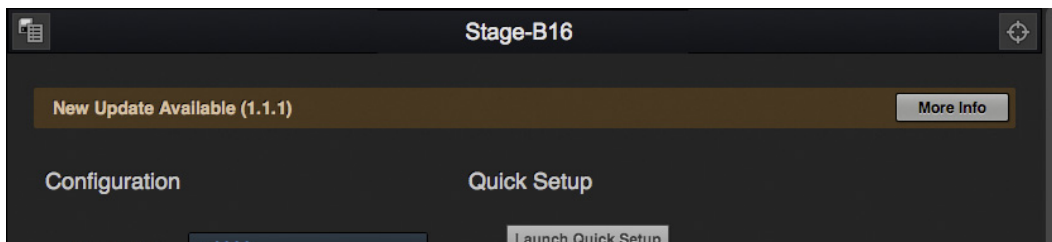

Figure D-1: The firmware update banner appears automatically at the top of the Device tab when your web host has internet access and MOTU posts an update.
- 3** In the *New Update Available* banner (Figure D-1), click *More Info*.